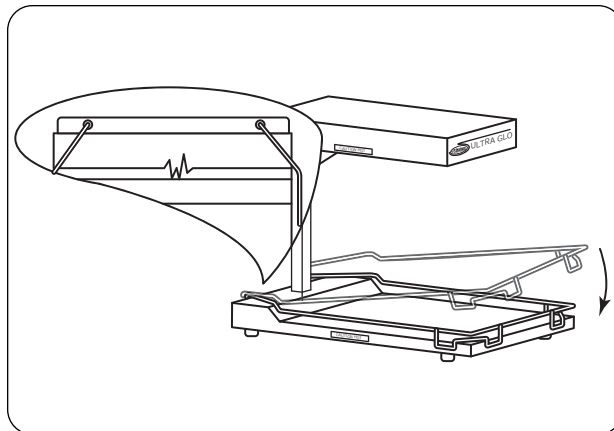

Figure 15. Assembly of Chrome Pan Rail
3. Insert chrome pan rail open end first. (See Figure 15.)